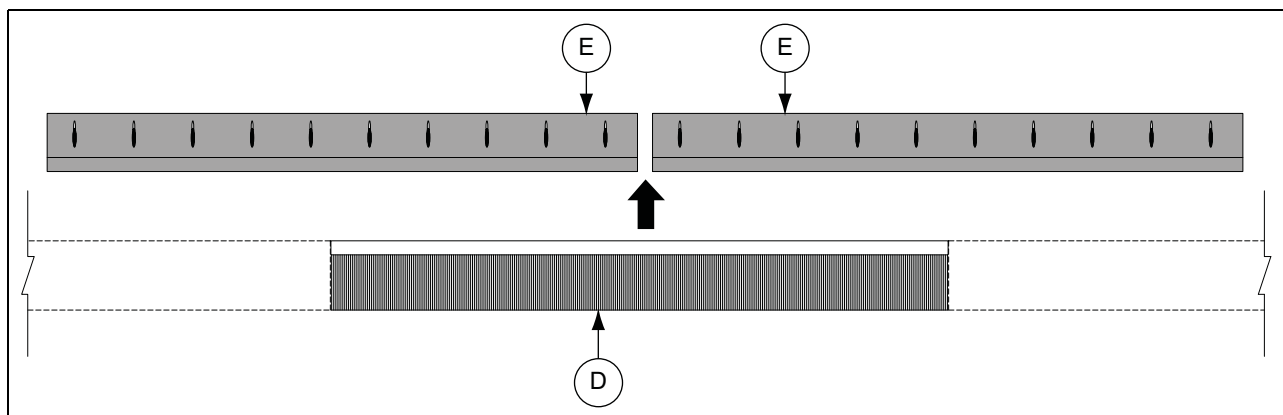

Figure 4S
- Assemble brush (D) to brush holder (E) to the desired length and cut brush holder (E) with a suitable device. Crimp the two (2) ends of the brush holder, locking the brush in place. (See Figure 4S.)